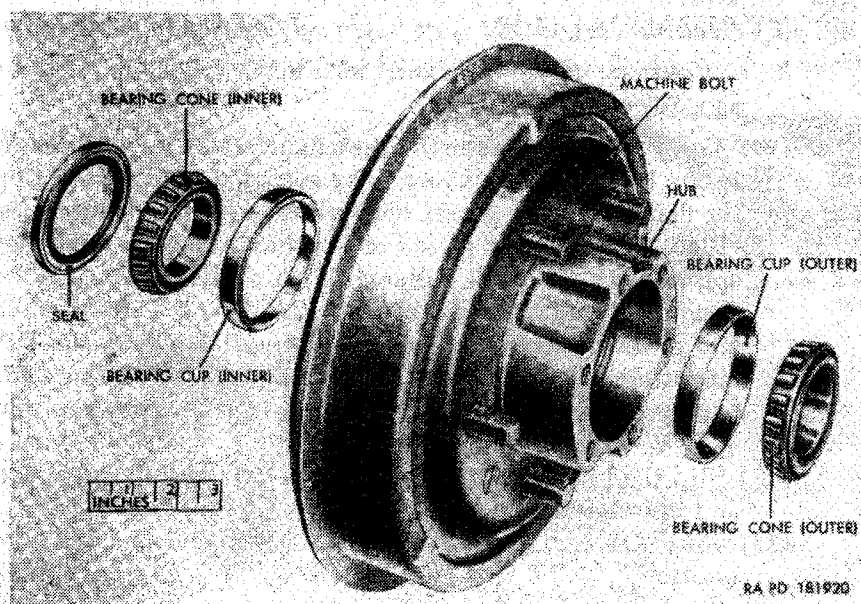

Figure 137. Front hub and drum, inner and outer bearing, and oil seal assembly—exploded view.
- (1) Follow the procedure described in paragraph 207a(1) through (7).
- (2) Using a brass drift, tap the hub (inner) bearing cone and hub bearing oil seal (fig. 137) out of the hub. Discard oil seal.
- (3) Install the remover and replacer 41-R-2374-845 and screw 41-S-1047-330 (fig. 138) in the hub bearing cup (inner) (fig. 137) and drive the cup out of the hub. Reverse the hub and, with the remover and replacer 41-R-2374-845 and screw 41-S-1047-330, drive the hub bearing cup (outer) from the hub.
- (1) Insert the small inside diameter end of the hub bearing cup (outer) (fig. 137) into the brake drum side of the hub. Place the remover and replacer 41-R-2374-845 and screw 41-S-1047-330 (fig. 138) in the hub and drive cup into position.
- (2) Insert the small inside diameter end of the hub bearing cup (inner) (fig. 137) into the brake assembly side of the hub. Place the remover and replacer 41-R-2374-845 and screw